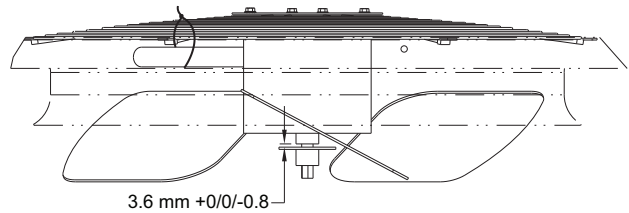

Fig. 34 - Outdoor Fan Blade Position
4. Adjust fan height as shown in Fig. 34.